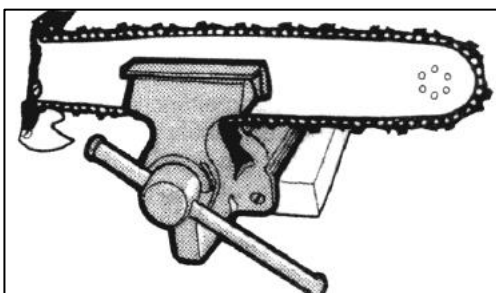

Fig.41
2. Fasten the guide bar in a vice so that the chain can slide. (Fig.41)